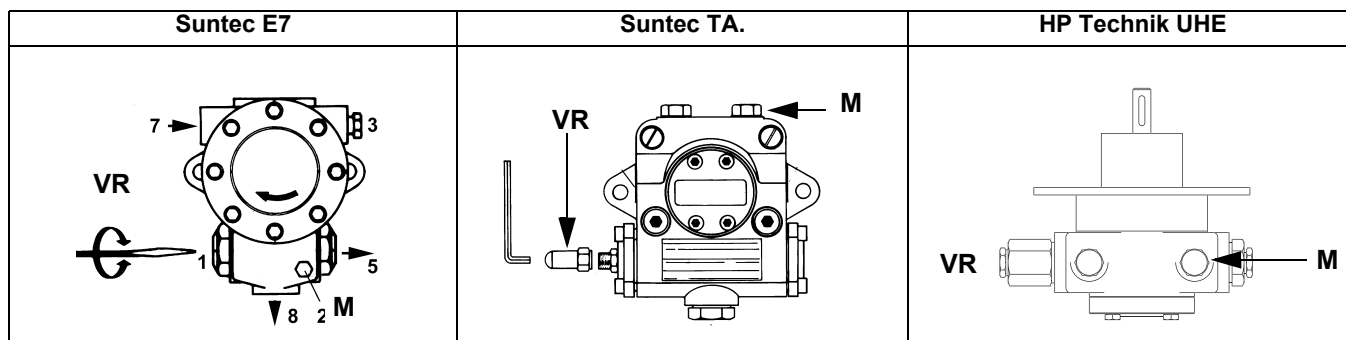
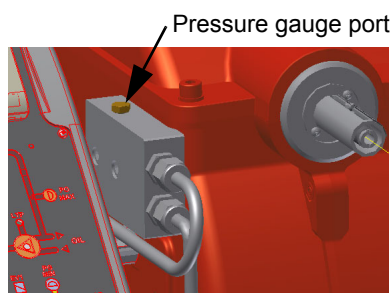

Fig. 8
Fig. 9
- 3 bleed the air from the **M** pressure gauge port (Fig. 8) by loosening the cap without removing it, then release the contactor.
- 5 Only if necessary, adjust the supply pressure as follows (see related paragraph); insert a pressure gauge into the port shown on Fig. 9 and act on on the pump adjusting screw **VR** (see Fig. 8) as to get the nozzle pressure at 20bar (Monarch or Fluidics nozzles - see page 36-38).